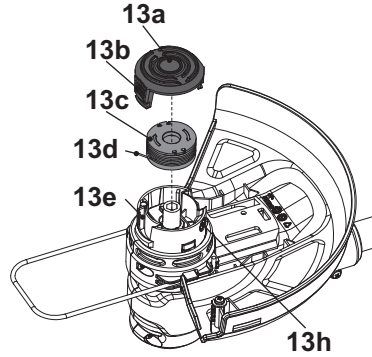

Fig. 24
3. Remove the spool (13c) from the housing (13e) (Fig. 24).